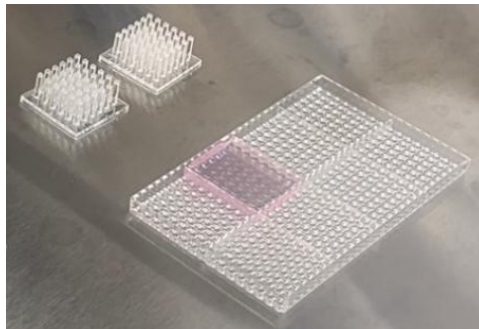

Figure 2. Dispensing 1.5 - 2 mL of the cell-alginate mixture per block in the LoadingPlate for rapid loading of the cells on the pillar plate.
- Place the LoadingPlate on a flat surface, dispense 1.5 - 2 mL of the cell-alginate mixture per small block, and spread it properly with the pipette tip (**Fig. 2**).